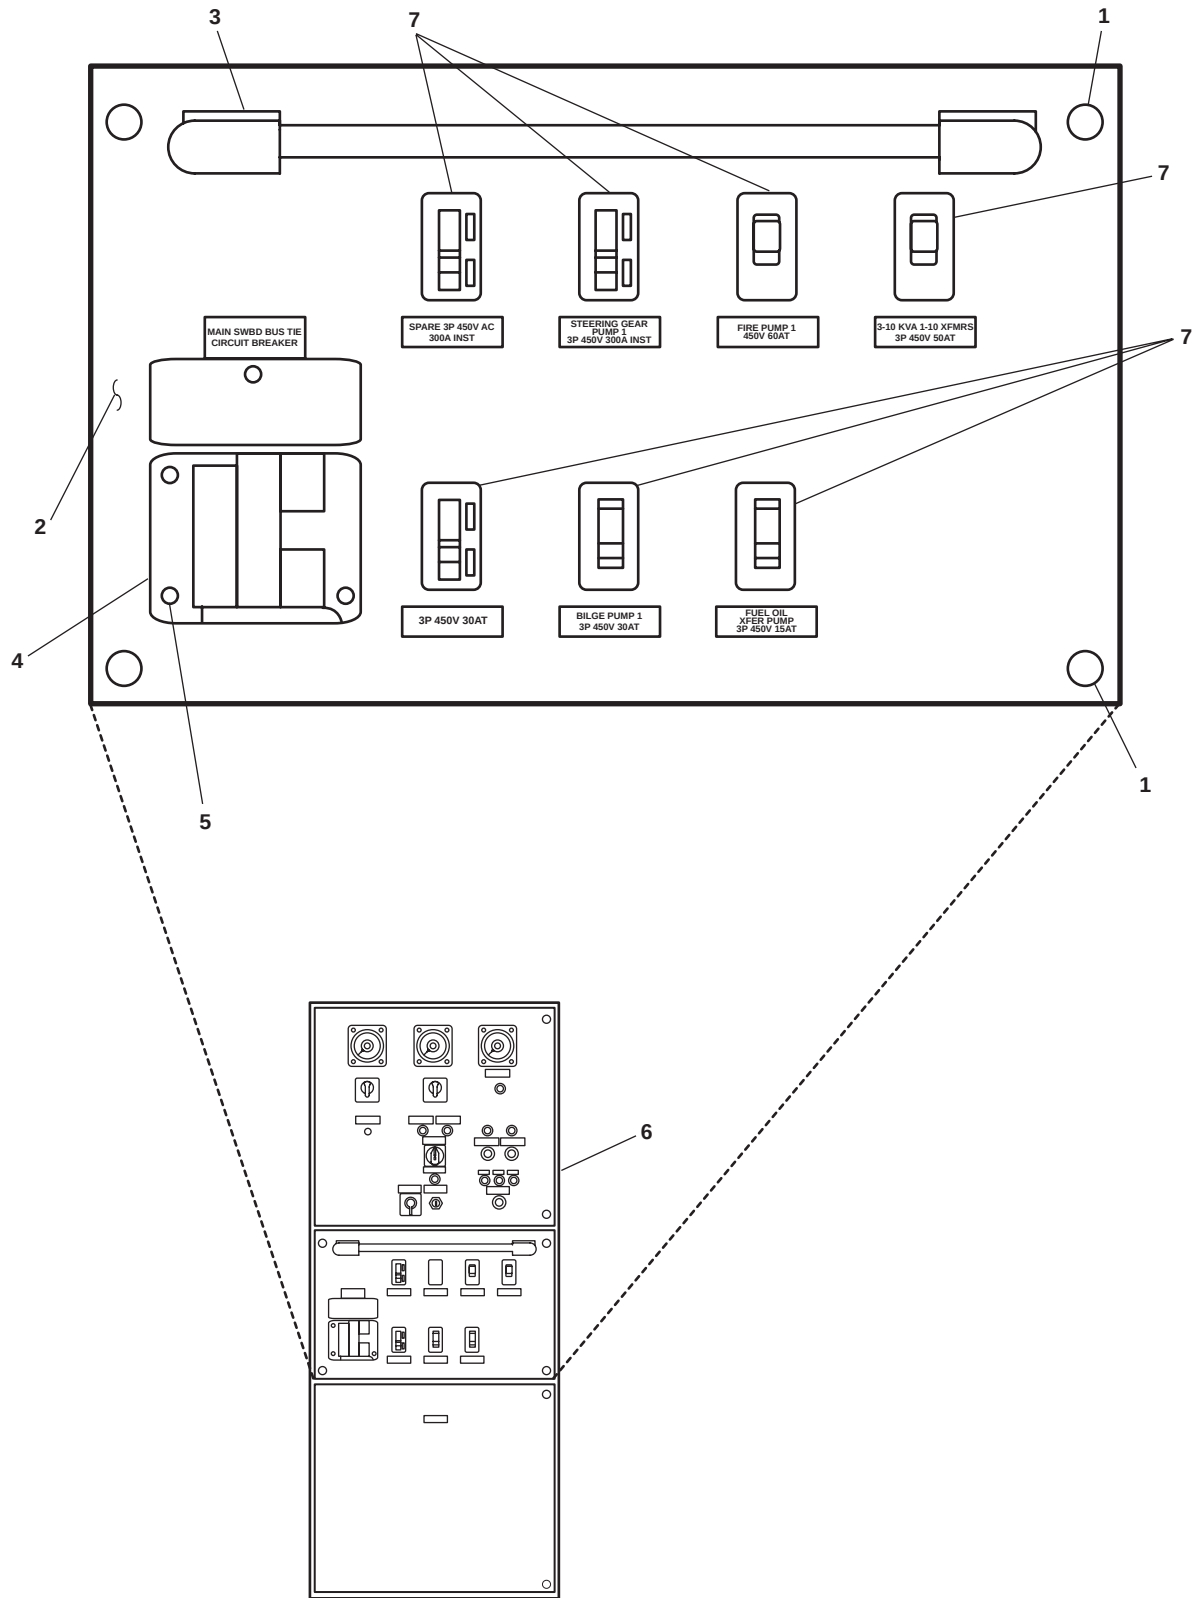

Figure 2. Emergency Switchboard Middle Panel
1. Loosen the emergency switchboard door panel captive screws (figure 2, item 1).
2. Remove the emergency switchboard door panel (figure 2, item 2) using the handrail (figure 2, item 3).
3. Store the emergency switchboard door panel (figure 2, item 2) in a safe place.
3. Remove the screws (figure 2, item 5) from the circuit breaker (figure 2, item 4).
4. Remove the circuit breaker (figure 2, item 4) from the emergency switchboard (figure 2, item 6).
1. Install the circuit breaker (figure 2, item 4) in the emergency switchboard (figure 2, item 6).
2. Install the screws (figure 2, item 5) in the circuit breaker (figure 2, item 4).
2. Use a multimeter to check for voltage at the circuit breaker switch (figure 2, item 7). If voltage is present, ensure that the proper engine fuel oil valves have been secured, locked out, and tagged out (FM 55-502). If no voltage is present, continue with the procedure.
3. Label and disconnect the electrical wiring to the applicable circuit breaker switch (figure 2, item 7).
4. If applicable, remove any associated hardware from the circuit breaker switch (figure 2, item 7).
5. Remove the applicable circuit breaker switch (figure 2, item 7) from the emergency switchboard (figure 2, item 6).
1. Install the replacement circuit breaker switch (figure 2, item 7) through in the emergency switchboard (figure 2, item 6).
2. Install the associated hardware on the circuit breaker switch (figure 2, item 7).
3. Connect the electrical wiring to the circuit breaker switch (figure 2, item 7) using the labels from step 3 of Removal as a guide. Remove the labels.
1. Install the emergency switchboard door panel (figure 2, item 2) using the handrail (figure 2, item 3).
2. Install the emergency switchboard door panel captive screws (figure 2, item 1).